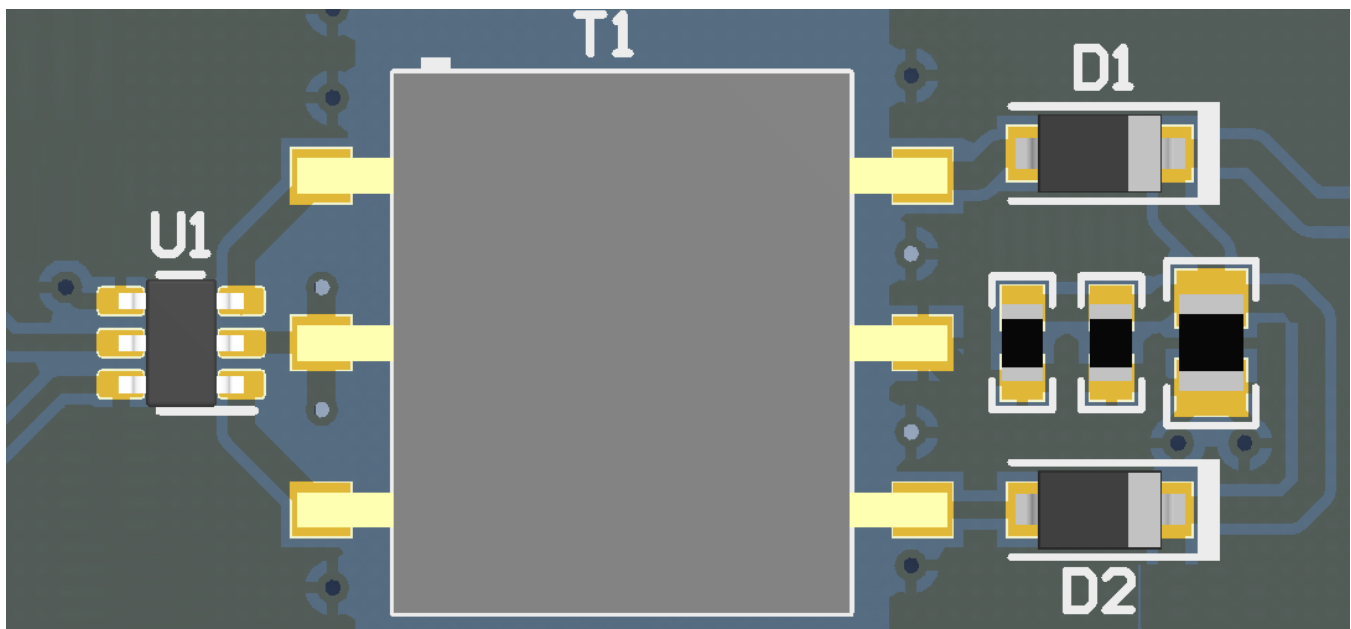

Figure 52. Layout Example of a 2-Layer Board (SN6505)
- The optimum placement is closest to the V_{IN} and GND pins at the board entrance to minimize the loop area formed by the bypass-capacitor connection, the V_{IN} terminal, and the GND pin. See Figure 52 for a PCB layout example.